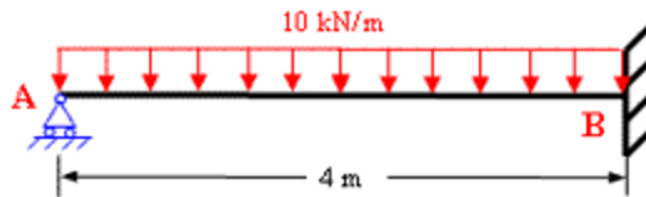

Figure 3
- (b) Compute R_A and R_B . Sketch the SFD and BMD of the propped cantilever beam for Figure 3. [7M]